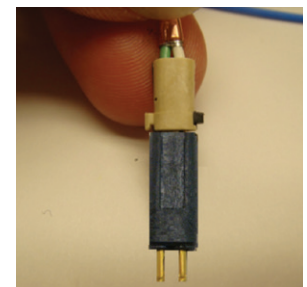

Figure 61: Attaching beige rear insulator
- Insert the beige rear insulator on the top of the contacts (Figure 61).